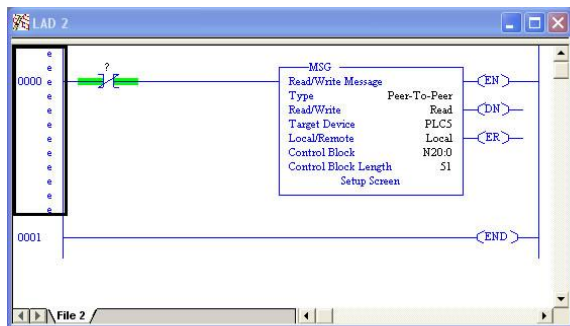

Figure 69: PLC Program after MSG Instruction Configuration
- f) Close the dialog box. At this point, the program should appear as shown in Figure 69.